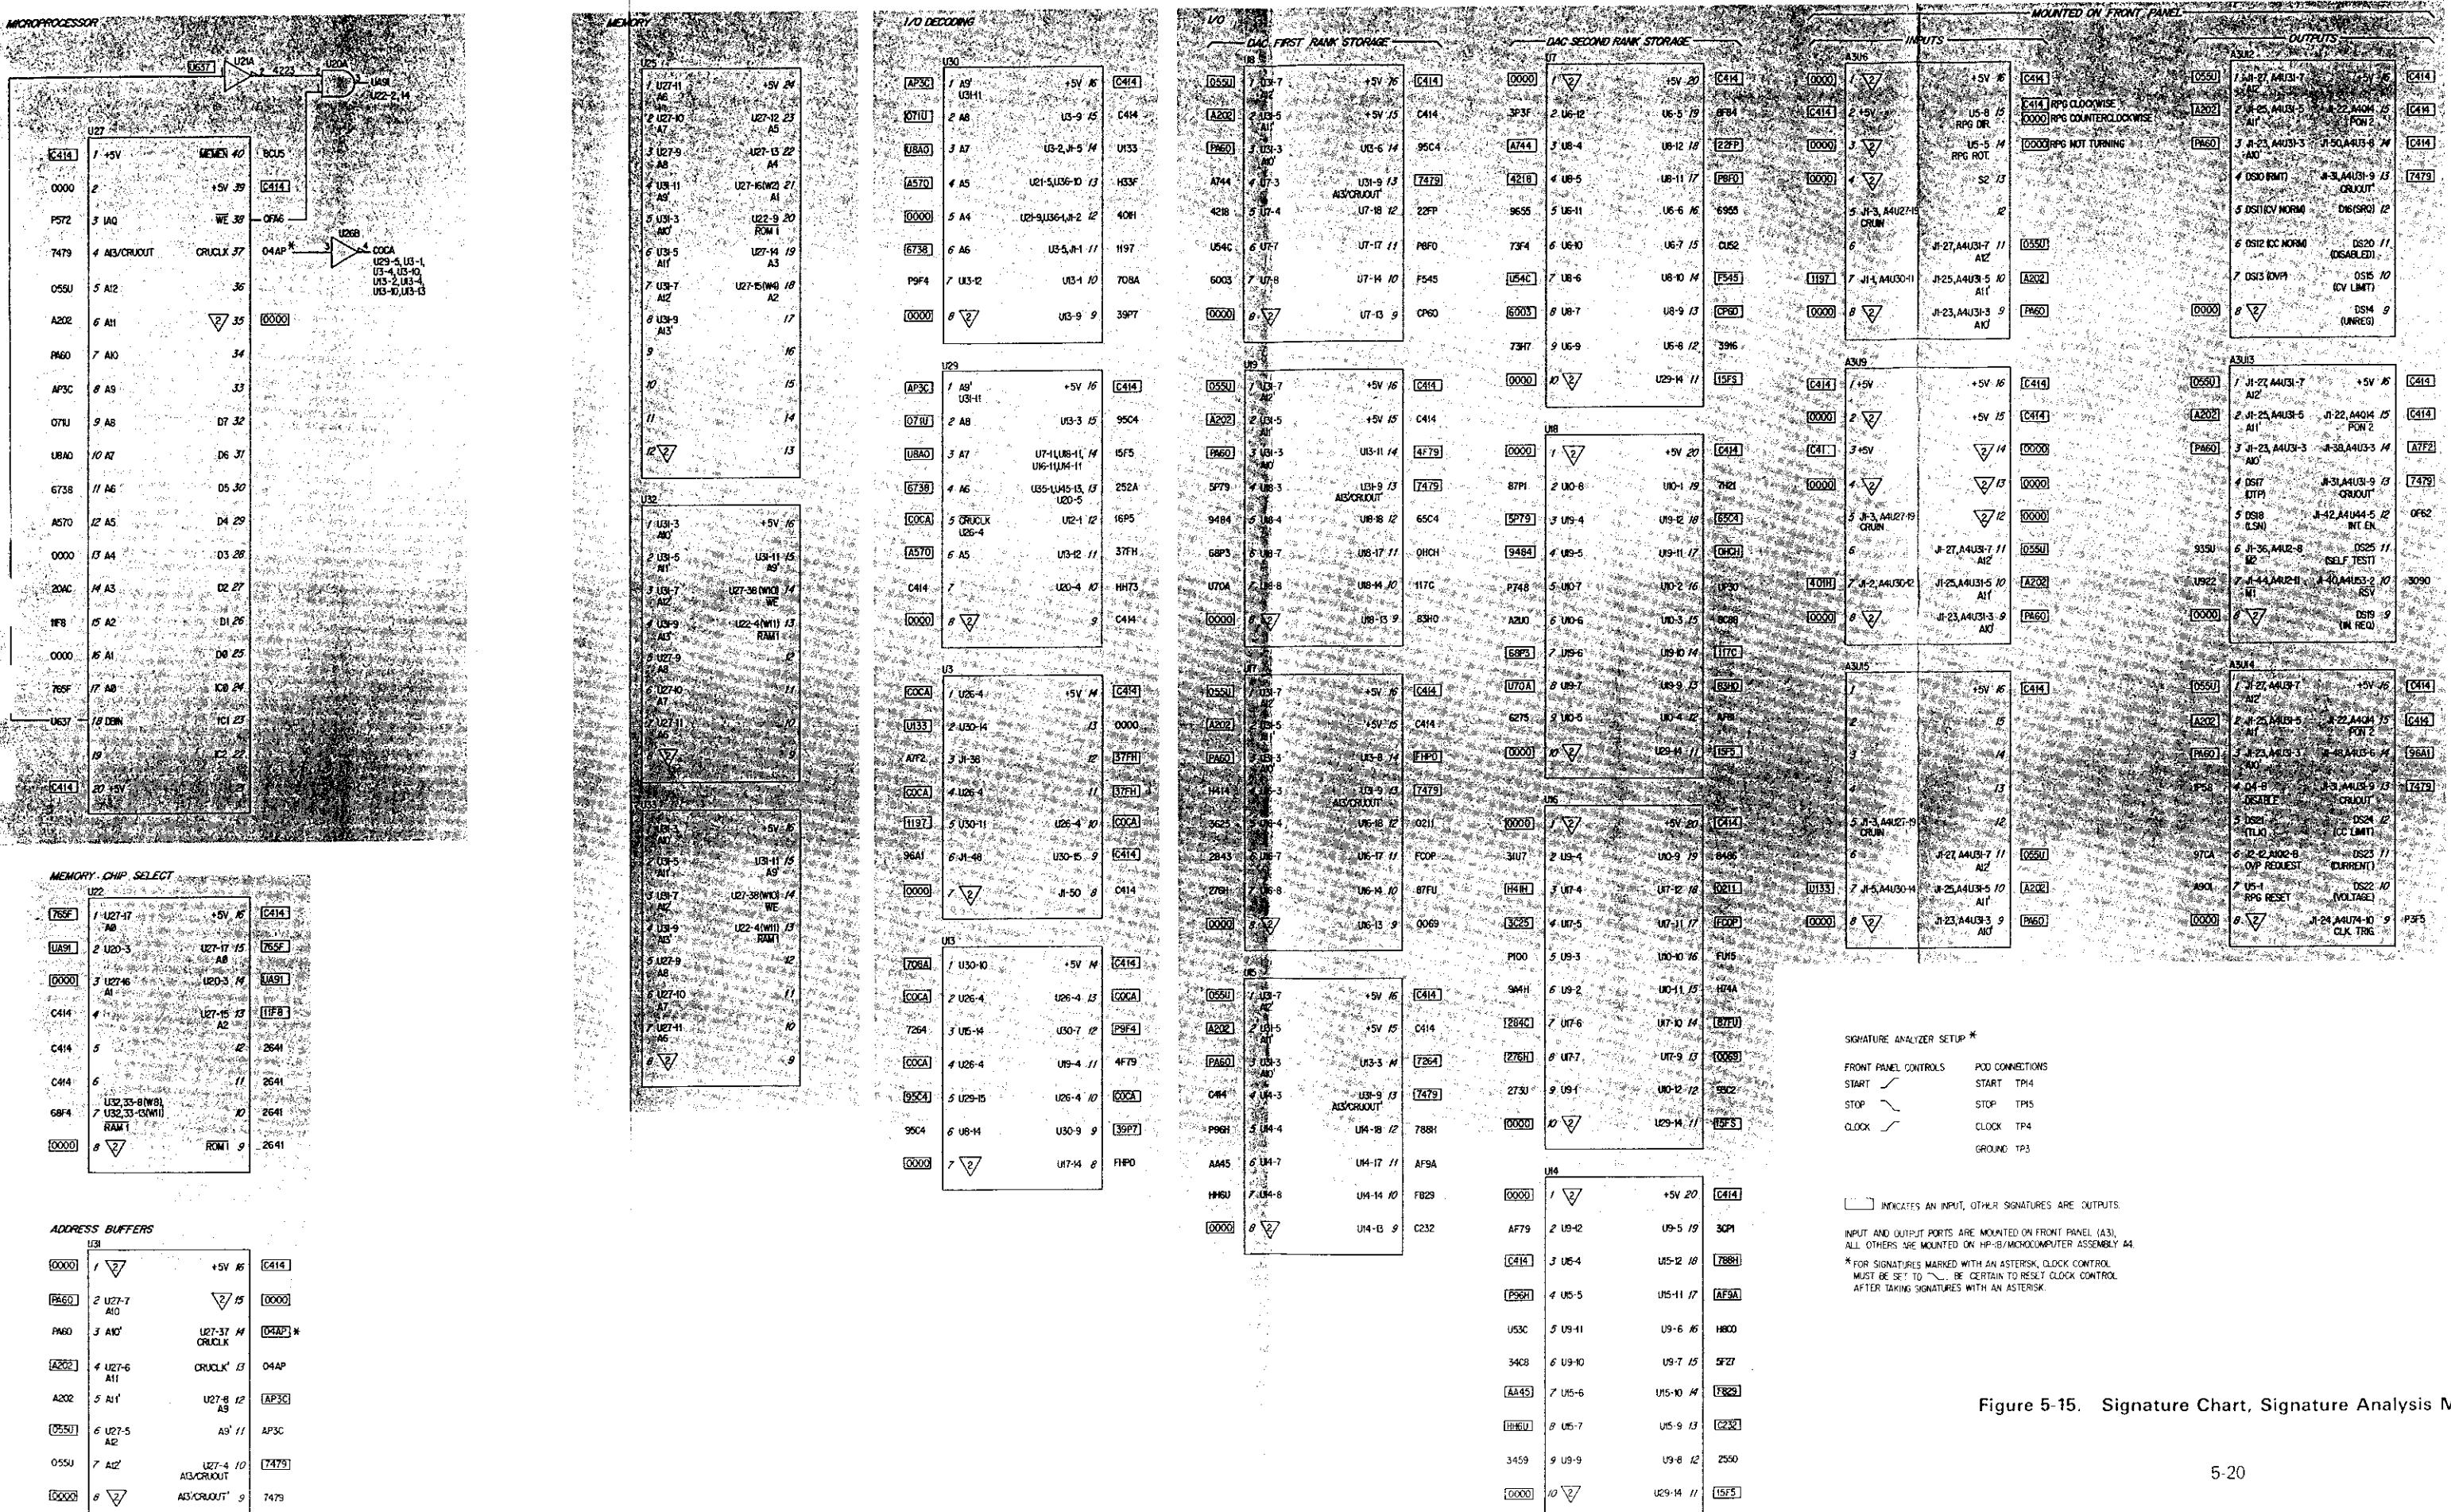

Figure 5-15. Signature Chart, Signature Analysis Mode
5-96 Signature Analysis Procedure. Figure 5-15 is used for signature analysis when the microprocessor has passed turn-on self test. Most faults for which this mode is appropriate involve I/O communication.
5-97 Ensure that the free-run jumper pack is in its normal position, and switch the 6034A to signature analysis test mode (CURRENT LED flashing). Set the signature analyzer controls as shown in Figure 5-15. If an input or output port is being checked, start at that port and work back toward the microprocessor. Remember that the numbers next to each pin number give the location to which that pin is connected.
- a. Using the schematic and labels on Figure 5-15, locate the output port that resets OVP; A3U14, pin 6, on the front-panel assembly.